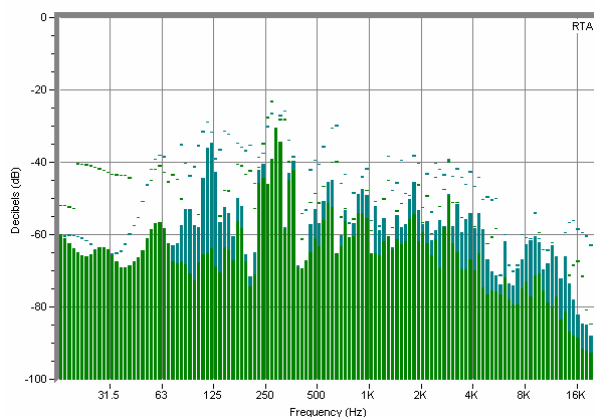

Figure 3: Default live RTA spectrum display (1/12th-octave).
If we launch SmaartLive with its default parameters and start the *Spectrum* mode, we will see a graph representing the signal *power-versus-frequency* in 1/12th-octave frequency *bands* for both input channels (see Figure 3). You will note that the *time response* of the RTA display is quite fast; this is due to the short time constant (186 ms) and the fact that there is no *frame averaging* applied to the display (averages = 1). A fast time response is useful only for very specific applications, primarily when a joint time-frequency analysis of a signal is desired, such as with a spectrograph (as we will see later). This short time constant also provides minimal *low-frequency resolution*, where the frequency resolution in this case is
5.4 Hz. As you can see in Figure 3, the low-frequency bands seem to have a smooth appearance, due to the low density of FFT data bins at these low frequencies.